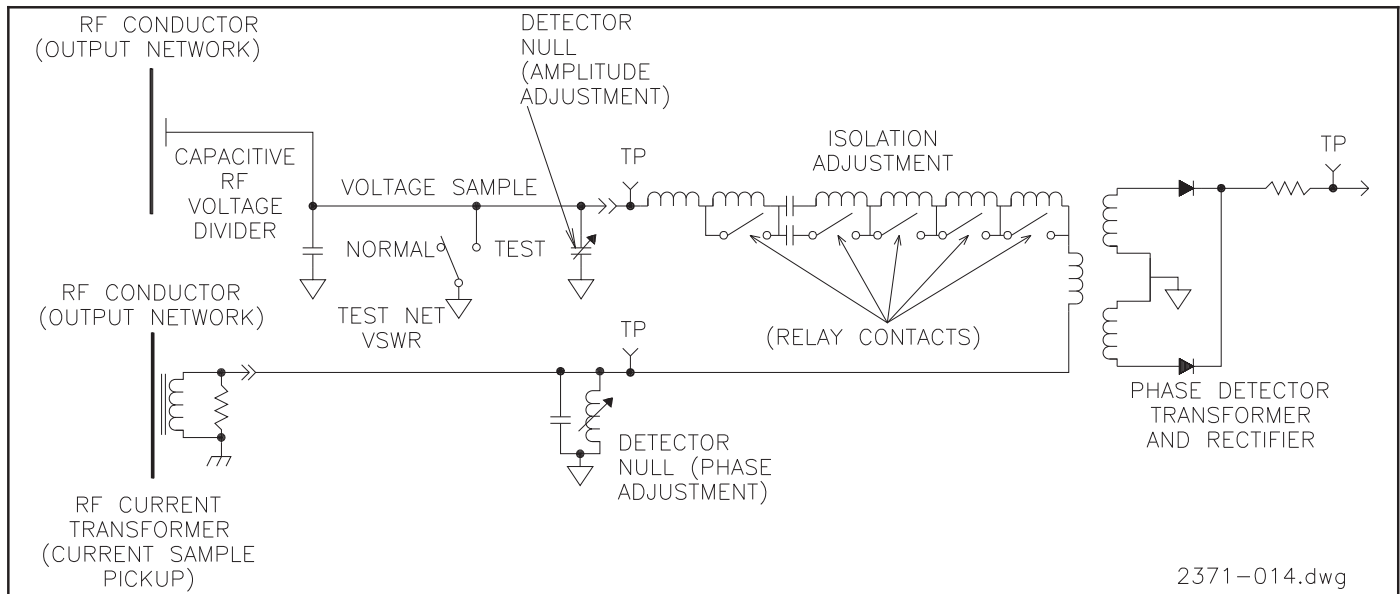

Figure H-2. VSWR Detector
Refer to Figure H-2, Network VSWR Detector or Figure H-4, Antenna VSWR Detector, for the following discussion.
*All variable capacitors in figures H-2 and H-4 are multiple fixed value capacitors that are incrementally switched to change the overall capacitance value.*